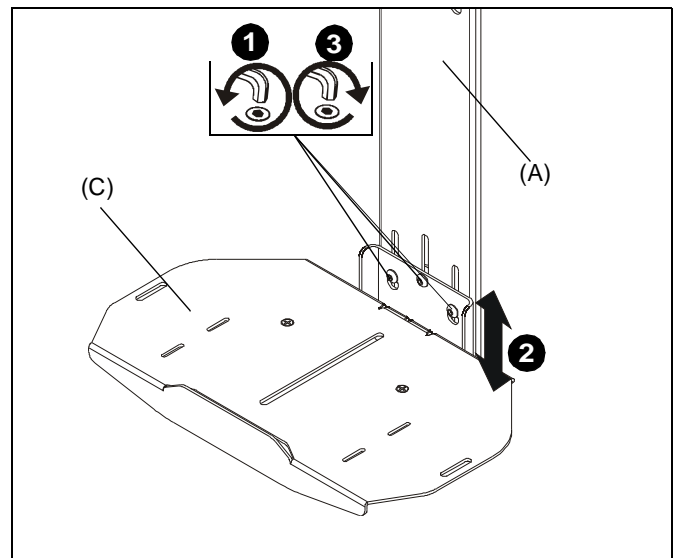

Figure 8
1. Loosen hardware used to attach shelf (C) to stackable bracket (A). (See Figure 8)
2. Adjust shelf height as desired. (See Figure 8)
3. Tighten hardware used to attach shelf (C) to stackable bracket (A). (See Figure 8)